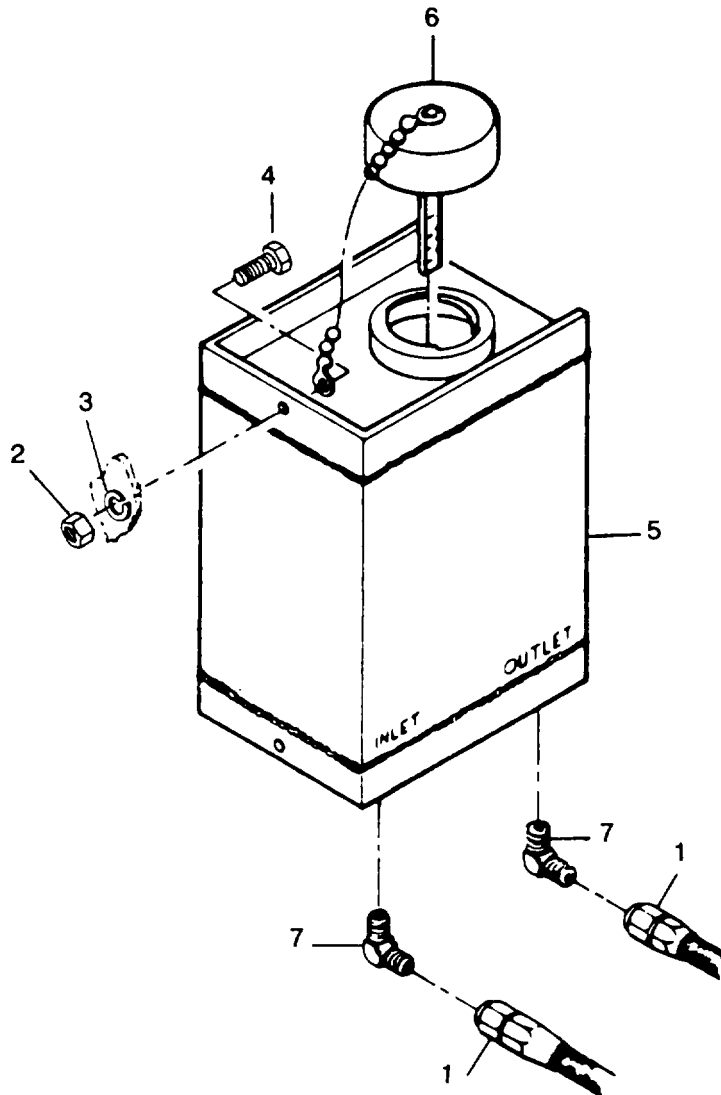

Figure 3-33. Hydraulic Sump, Removal and Installation
- (1) Refer to the Operator and Unit Maintenance Manual and drain the hydraulic sump.
- (2) Disconnect hydraulic lines (1, figure 3-33).
- (3) Remove nuts (2), lockwashers (3) and screws (4) to remove hydraulic sump (5).
- (4) Remove cap and dipstick assembly (6) and elbows (7) from sump.
- (1) Install elbows (7, figure 3-33).
- (2) Install cap and dipstick assembly (6) in hydraulic sump (5) and secure with screws (4), lockwashers (3) and nuts (2).
- (3) Connect hydraulic lines (1).